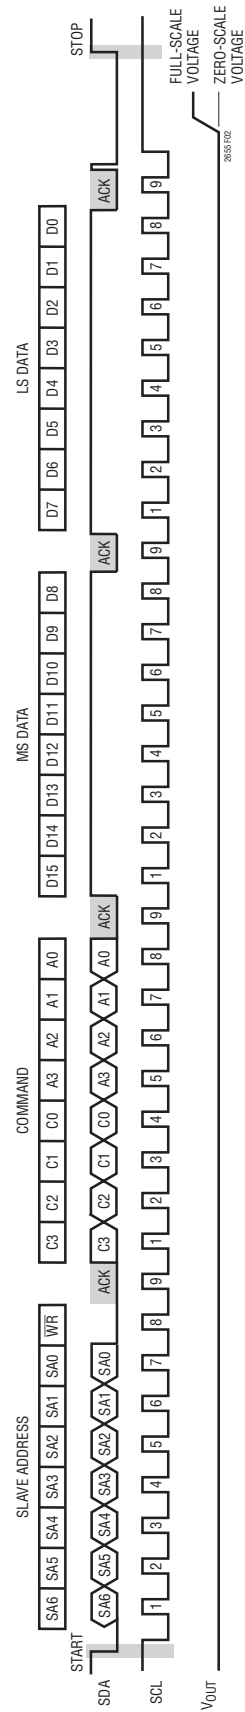

Figure 2. Typical LTC2655 Input Waveform—Programming DAC Output for Full-Scale
The master initiates communication with the LTC2655 with a START condition and a 7-bit slave address followed by the Write bit (W) = 0. The LTC2655 acknowledges by pulling the SDA pin low at the 9th clock if the 7-bit slave address matches the address of the part (set by CA0, CA1 and CA2) or the global address. The master then transmits three bytes of write data. The LTC2655 acknowledges each byte of data by pulling the SDA line low at the 9th clock of each data byte transmission. After receiving three complete bytes of data, the LTC2655 executes the command specified in the 24-bit input word. If more than three data bytes are transmitted after a valid 7-bit slave address, the LTC2655 does not acknowledge the extra bytes of data (SDA is high during the 9th clock). The first byte of the input word consists of the 4-bit command followed by the 4-bit address. The next two bytes consist of the 16-bit data word. The 16-bit data word consists of the 16-bit, or 12-bit input code, MSB to LSB, followed by 0 or 4 don't care bits (LTC2655-16 and LTC2655-12 respectively). A typical LTC2655 write transaction is shown in Figure 2. The command (C3-C0) and address (A3-A0) assignments are shown in Table 1. The first four commands in the table consist of write and update operations. A write operation loads a 16-bit data word from the 32-bit shift register into the input register. In an update operation, the data word is copied from the input register to the DAC register and converted to an analog voltage at the DAC output. The update operation also powers up the DAC if it had been in power-down mode. The data path and registers are shown in the Block Diagram.